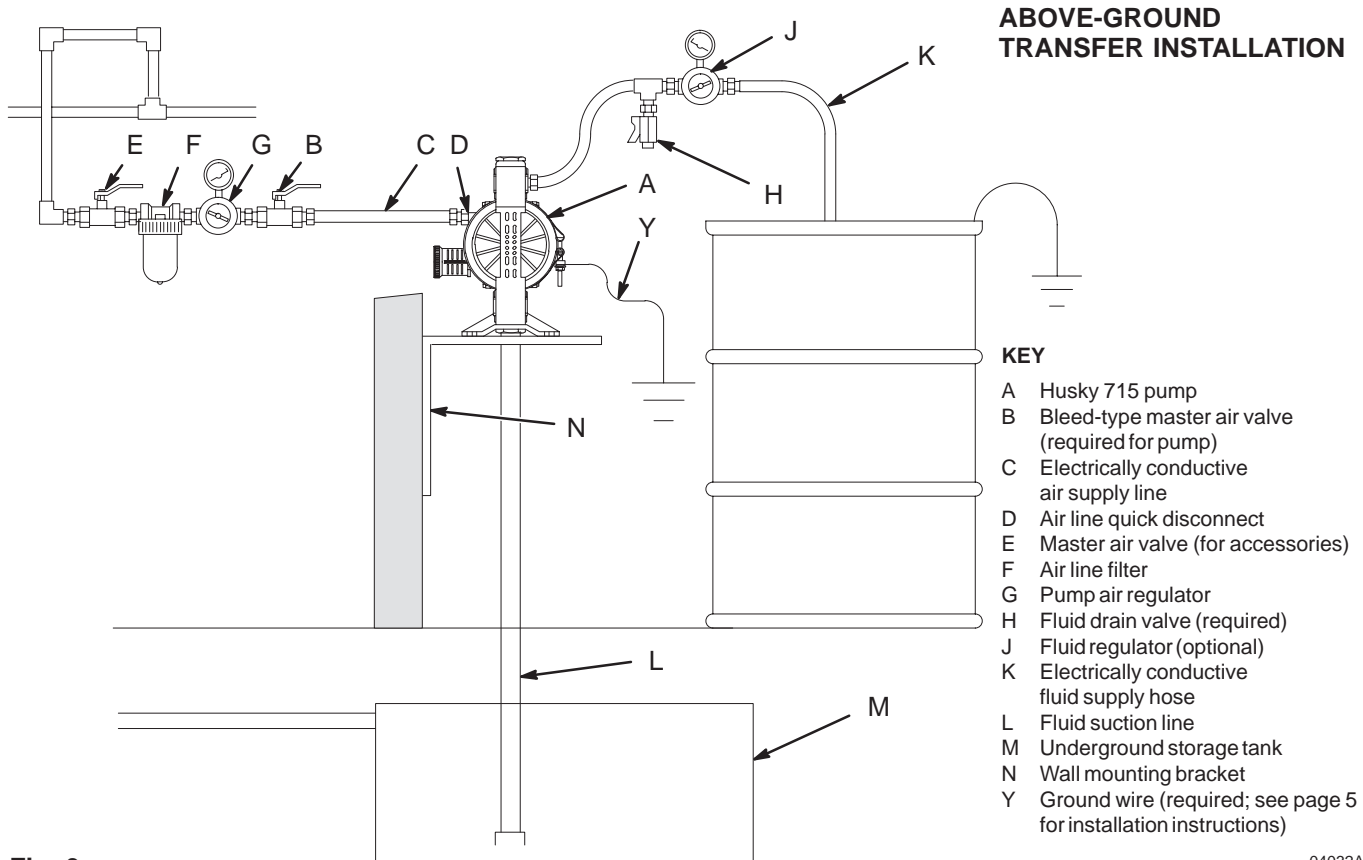

Fig. 3
- The Typical Installations in Figs. 3 to 5 are only guides for selecting and installing system components. Contact your Graco distributor for assistance in planning a system to suit your needs.
- The Husky 715 Pump can be used in a variety of installations. See Figs. 3 to 5 for some examples.
A bleed-type master air valve (B) is required in your system to relieve air trapped between this valve and the pump. See Fig. 3. Trapped air can cause the pump to cycle unexpectedly, which could result in serious injury, including splashing in the eyes or on the skin, injury from moving parts, or contamination from hazardous fluids.
1. Install the air line accessories as shown in Fig. 3. Mount these accessories on the wall or on a bracket. Be sure the air line supplying the accessories is electrically conductive.
- a. The fluid pressure can be controlled in either of two ways. To control it on the air side, install an air regulator (G). To control it on the fluid side, install a fluid regulator (J) near the pump fluid outlet (see Fig. 3).
- b. Locate one bleed-type master air valve (B) close to the pump and use it to relieve trapped air. See the **WARNING** above. Locate the other master air valve (E) upstream from all air line accessories and use it to isolate them during cleaning and repair.
- c. The air line filter (F) removes harmful dirt and moisture from the compressed air supply.
2. Install an electrically conductive, flexible air hose (C) between the accessories and the 1/4 npt(f) pump air inlet. Use a minimum 1/4" (6.3 mm) ID air hose. Screw an air line quick disconnect coupler (D) onto the end of the air hose (C), and screw the mating fitting into the pump air inlet snugly. Do not connect the coupler (D) to the fitting yet.
A fluid drain valve (H) is required in your system to relieve pressure in the hose if it is plugged. See Figs. 3 to 5. The drain valve reduces the risk of serious injury, including splashing in the eyes or on the skin, or contamination from hazardous fluids when relieving pressure. Install the valve close to the pump fluid outlet.
2. Install a fluid regulator (J) at the pump fluid outlet to control fluid pressure, if desired (see Fig. 3). See **Air Line**, step 1a, for another method of controlling pressure.
3. Install a fluid drain valve (H) near the fluid outlet. See the **WARNING** above.
See Fig. 3 for air line accessories
See Fig. 3 for accessories